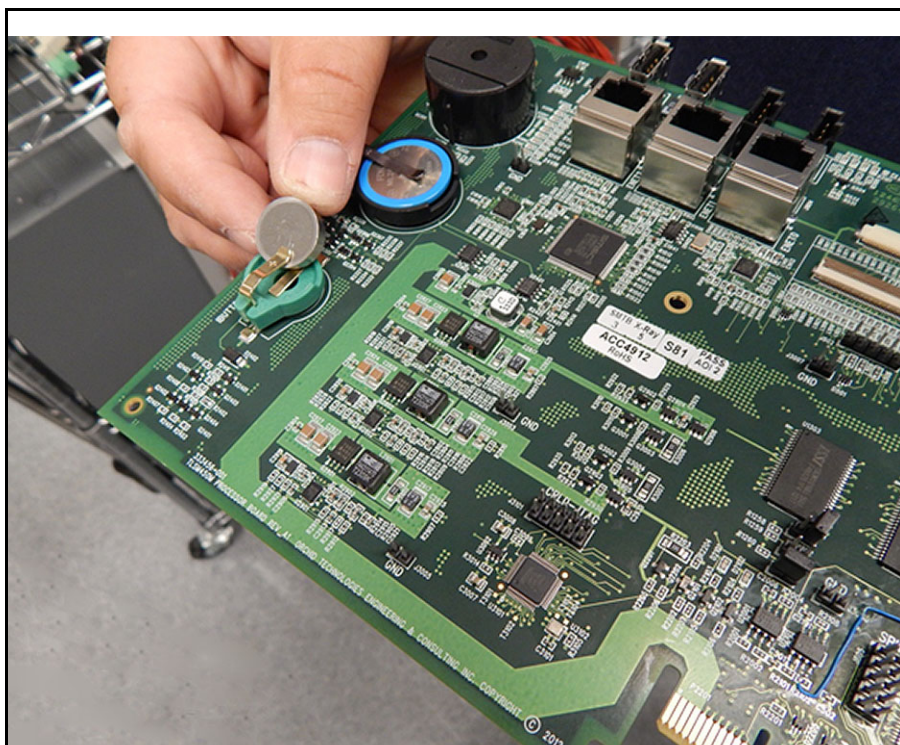
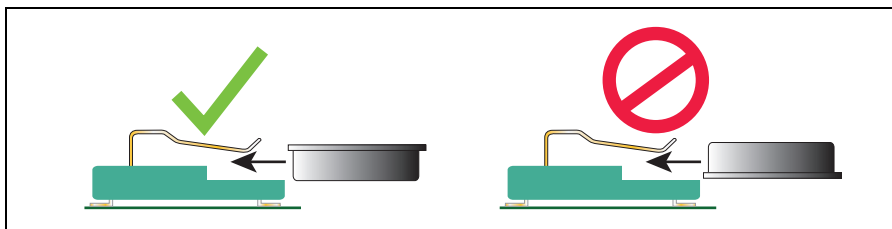

Figure 17. Locating TLS-450PLUS CPU Board iButton
Figure 18. Install iButton Flange Facing Up
2. Locate the iButton on the top rear of the TLS-450PLUS CPU board (see Figure 17). Remove the iButton from its socket on the board. Slide the replacement iButton into the socket with its flanged side facing up in the socket (see Figure 18).